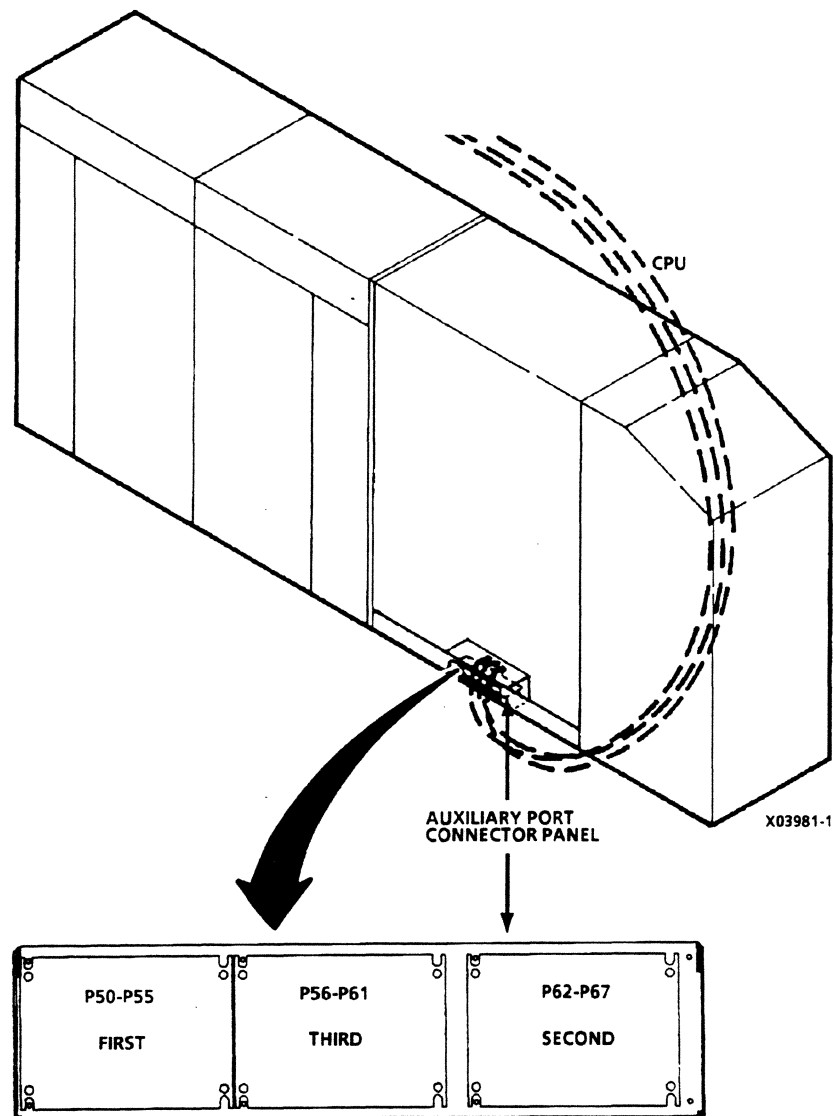

Figure 2-23. Mounting Cables to Adapter Plate
- 6. Feed cable bundles first through left cutout, then right cutout, then center cutout as shown in figure 2-23.